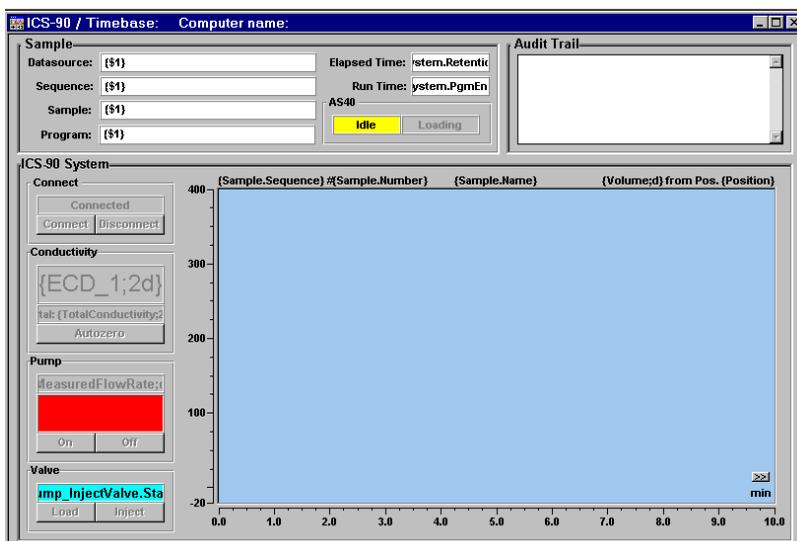

Figure B-12. Dionex_ICS-90_AS40_System Control Panel (Unconnected)
4. If the Control panel opens with the controls not yet active (see Figure B-12), connect the ICS-90 to the Control panel by selecting **Control>Connect to Timebase**.